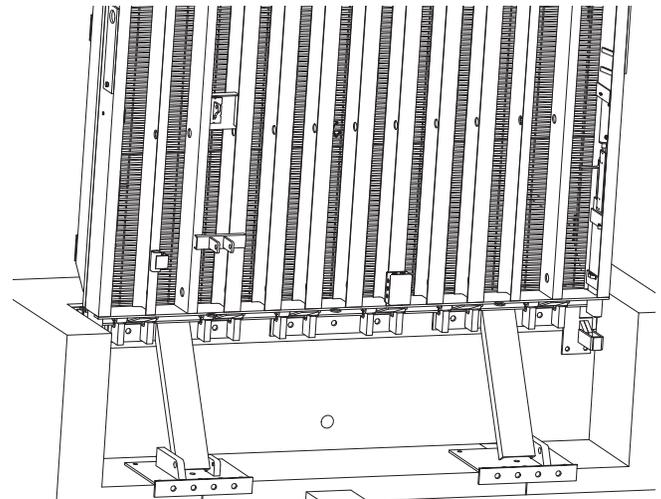

Figure 10
12. Move the bridge section into position for final assembly, centering the bridge hinges with the hinge weldments. See Figure 10.